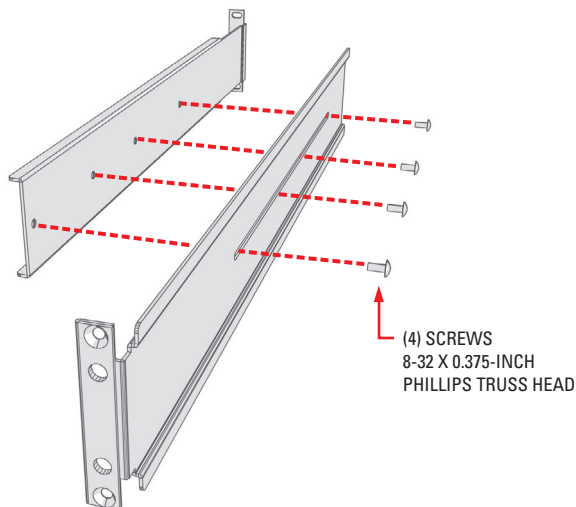

Figure 10. Assembling a Support Rail
2. Attach one front-mount rail to one rear-mount rail. Make sure the rails are mounted back to back, as shown in Figure 10. Depending on rack depth, use either three or four 8-32 x 0.375-inch Phillips truss head screws for each rail set. Leave the screws loose until step 9.